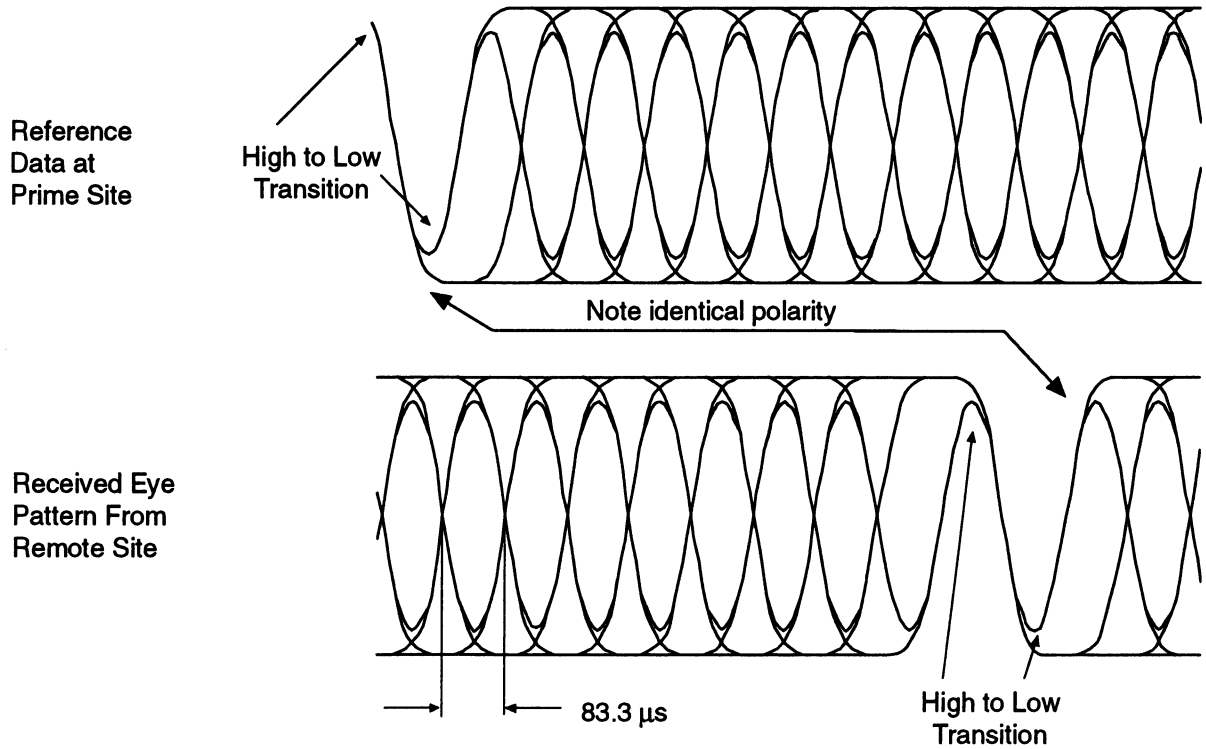

Figure 16. Non-Inverting Polarity for a Two-Level System
- Step 3. Do one of the following to display a 12 kbit/sec filtered random data, or eye, pattern (Figure 16 and 17):
If you were to trigger on the positive edge, your eye pattern will be inverted. Refer to Figures 16 and 17.
- p. To display the pattern as shown in Figures 16 and 17, adjust the vertical and horizontal SCALE knobs.
- Step 7. Compare Figures 16 and 17 with your oscilloscope.
- If the eye pattern looks like Figure 16 and you are using a non-inverting receiver (Motorola model R2024 service monitor or Syntor X 9000E), the polarity is correct. Notice the high-to-low dip in the eye pattern from the prime site
You may have to adjust the vertical and horizontal SCALE knobs to display the same pattern as shown in Figures 16 and 17.